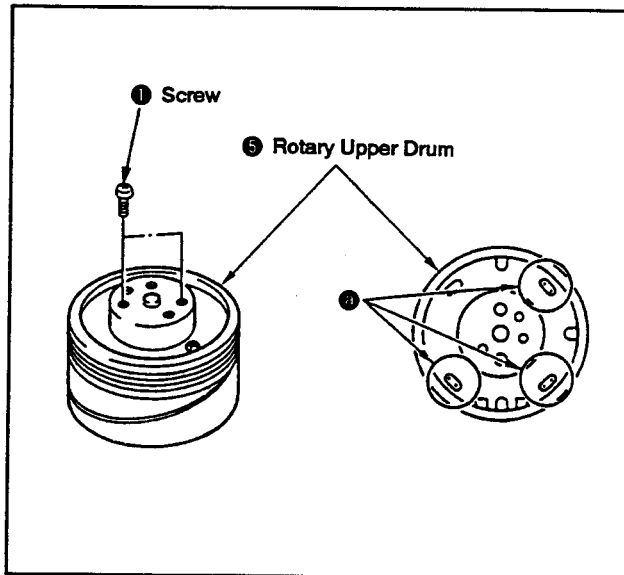
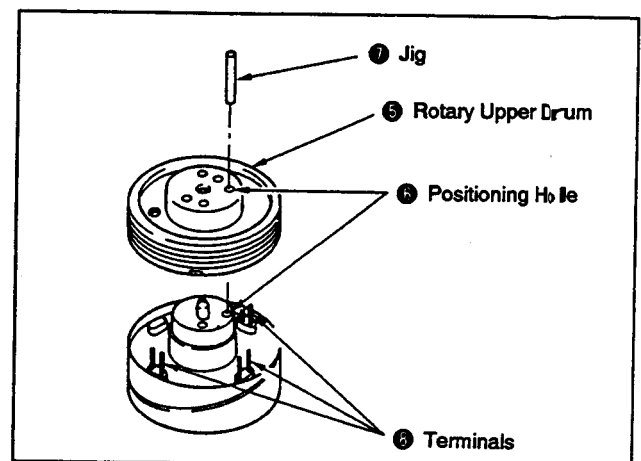

Fig. 3-22.
Fig. 3-24.
- 1) Detach the six solderings ⑧, then use a pair of tweezers or the like to confirm that the terminals passing through the board holes from below can move freely.
- 2) Remove the two screws ① (See Fig. 3-22).
- 1) Wipe clean the flange surface and the rotary upper drum ⑤ surface that makes contact with it, and confirm that they are free from dirt and scratches.
- 2) Insert the jig ⑦ (Ref. No. J-7) into the drum positioning hole, then set the rotary upper drum ⑤ by passing the jig through its positioning hole ⑥.
- Note:** Confirm that the terminals ⑧ protrude slightly from the rotary upper drum board holes (See Fig. 3-24).
- 3) Remove the jig ⑦ and push down the rotary upper drum ⑤ gently by hand. If it does not go all the way down, secure it temporarily by tightening the two hexagon socket screws ① alternately.
- 4) Insert the jig ⑦ into the positioning hole ⑥ again and confirm that it goes in smoothly. If it does not, loosen the two screws ①, repeat step 3 of the Removal paragraph and restart the setting procedure.
- 5) Tighten the screws ①.
- 6) Solder the terminals ⑧ (② in Fig. 3-22).